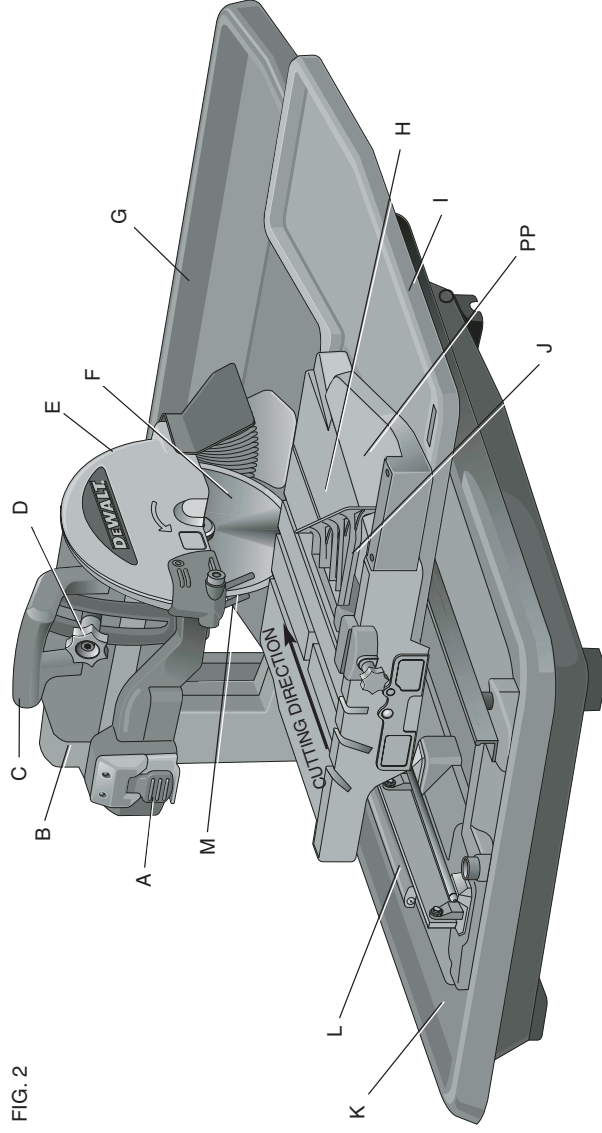

FIG. 2
1. Place saw frame assembly (L) on a stable surface.
2. Using the supplied wrench remove the screws (O) from the saw frame assembly.
3. Place motor arm (B) on frame assembly.
4. Secure the saw head by installing two of the screws (O) into the holes closest to the rail. Tighten the screws with the wrench provided. Install the other two screws in the other two holes and tighten.
5. Place the saw assembly into the water pan (K) as shown in Figure 2.
6. Tilt the front of the cutting cart assembly (H) down on a slight angle. Align the arrow on the rear of the cutting cart with the round rail on the frame of the saw. Slide the cutting cart assembly onto the rail system clearing the cart stop with both pairs of rollers.